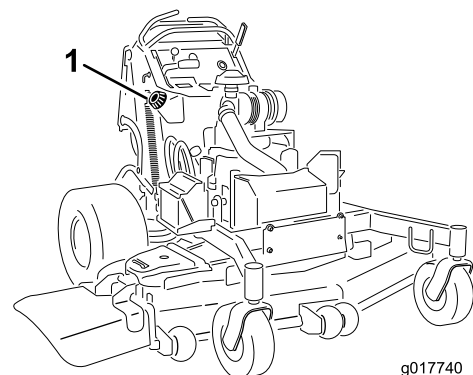

Figure 49
6. Using the syphon pump, drain the fuel into a clean gas can (Figure 49).